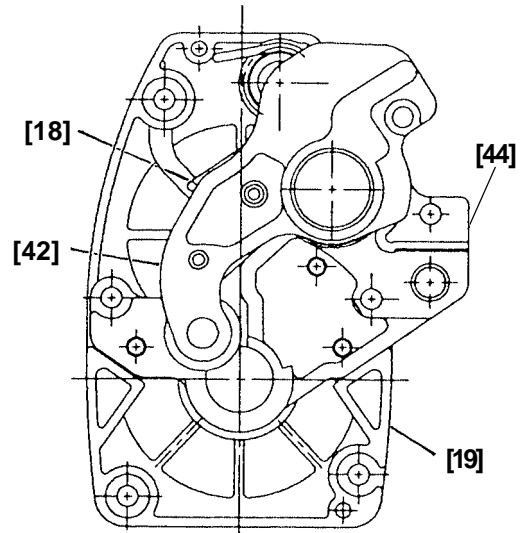

Fig. 37
(i) Mount the Return Spring [18] to the Gear Cover [19] (Fig. 37).
(ii) Mount the bracket ass'y assembled in the above steps (b) and (c) to the Gear Cover [19] hooking the Return Spring [18] on Bracket (A) [42] (Fig. 37).